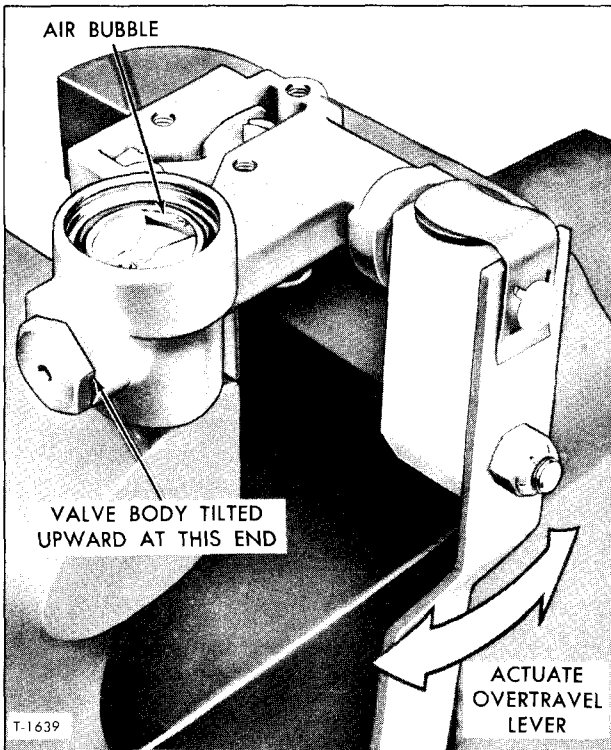
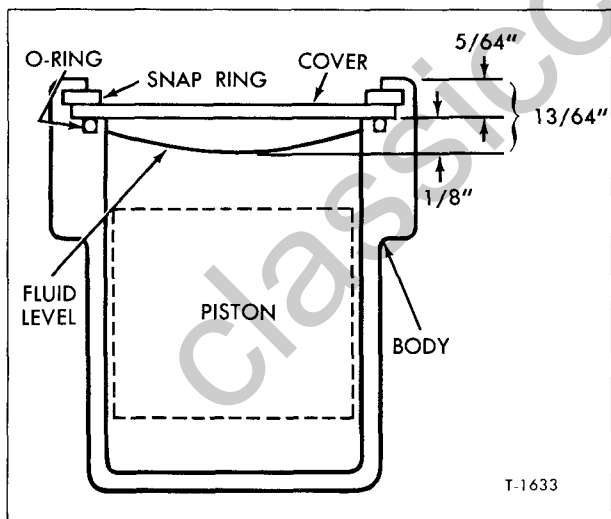

Figure 12—Venting Air from Silicone Fluid
Figure 13—Silicone Fluid Level
2. Pour 6.0 cc ± 0.25 cc of silicone fluid (1000 Centistokes viscosity at 25°C) into delay piston bore. With valve body tilted slightly as shown in figure 12 carefully operate overtravel lever fore and aft to vent air from fluid. When all air has been expelled from piston pin cavity, check fluid level using depth gauge as shown in figure 13.